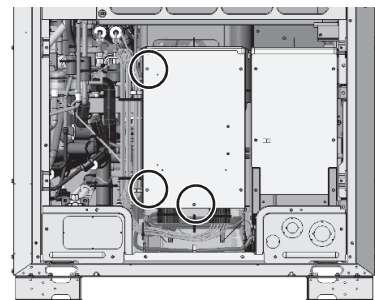

Figure 5
- (7) Remove the cover from the main control box by unscrewing the three screws. (See Figure 5.)